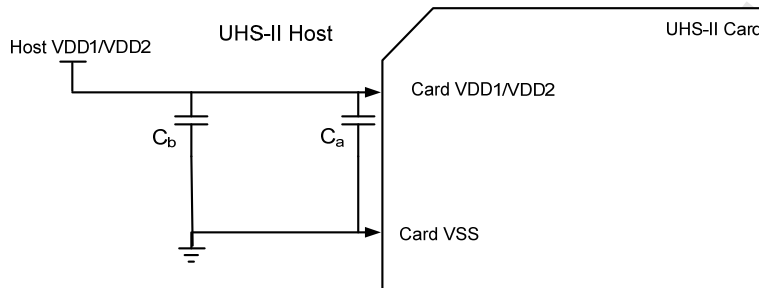

Figure E- 3 : General UHS-II Host Decoupling Capacitors
- High Frequency Currents - UHS-II Addendum Section 4.3.7 defines mandatory  $C_{H1}$ ,  $C_{H2}$  which are 1 $\mu$ F (minimum) decoupling capacitors for both VDD1 and VDD2 domains accordingly. Those capacitors provide low impedance path and decoupling for high frequency current. To maintain the Host power delivery network unaffected by internal Device high frequency instantaneous currents, and the CM noise caused, it is very important that the  $C_{H1}$ ,  $C_{H2}$  capacitors are located adjacent to the socket VDD1, VDD2 and VSS pins. Otherwise Host interoperability issues may be expected. In Figure E- 3,  $C_a$  represents the high frequency currents decoupling.
Usually frequency characteristics of power supply circuit is relatively not too high (below 100KHz, for typical design techniques) and so it is recommended to use low frequency decoupling implemented by suitable capacitor. Such a capacitor should have low impedance starting at power circuit BW. It is recommended to use 4.7 $\mu$ F such as MLCC X5R/X7R capacitor type with low ESR and ESL to provide Host decoupling at low frequencies. Decoupling capacitor for low frequencies usually will have larger package (0603, 0805, ...). It is reasonable to assume that it won't be located adjacent to the socket pins, and so is expected to have some serial inductance over the Host PDN route. In Figure E- 3,  $C_b$  represents the low frequency decoupling capacitor.